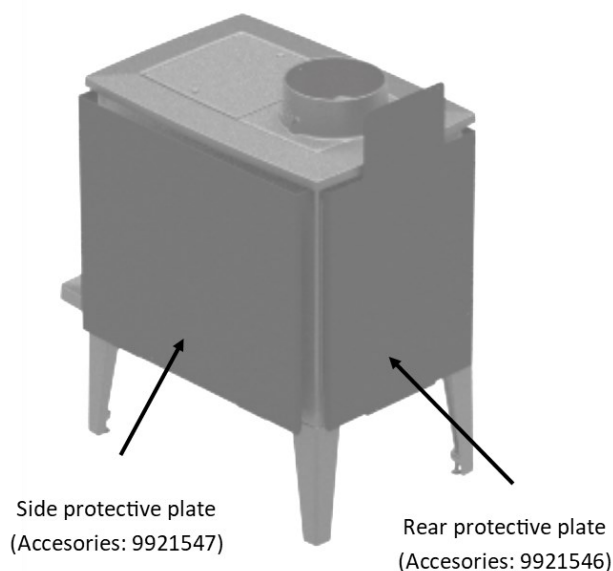

FIG. 3
- ACCESSORIES: Rear and side protective plates (Not supplied with the appliance) (Fig. 3)